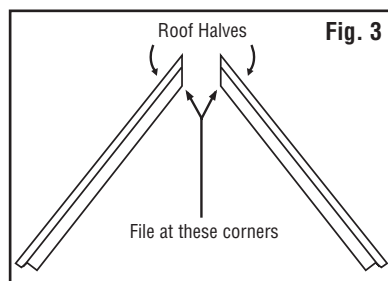

Fig. 3
- Test fit Roof Sections (803-10), (803-11), (803-12) and (803-13) (Figs. 3 and 5).